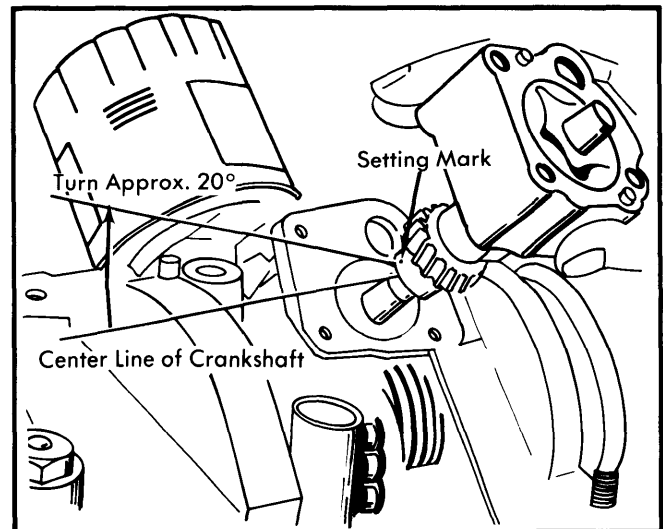

Fig. 8 Installing Oil Pump
2) Install driven rotor so that alignment mark aligns with mark on the drive rotor. Engage drive gear with pinion gear on crankshaft so alignment mark is turned rearward and is away from crankshaft by approximately 20° in clockwise rotation See Fig. 8.